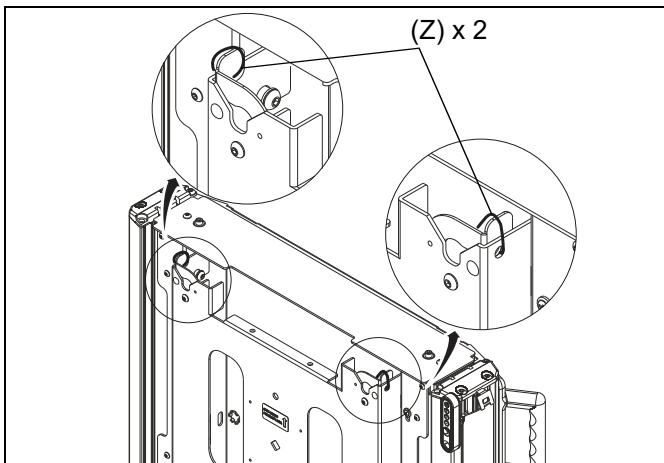

Figure 19
**IMPORTANT !** : Manufacturer recommends using cable ties (Z) to secure the latching flags in closed position on both sides if padlock is not being used. (See Figure 19)